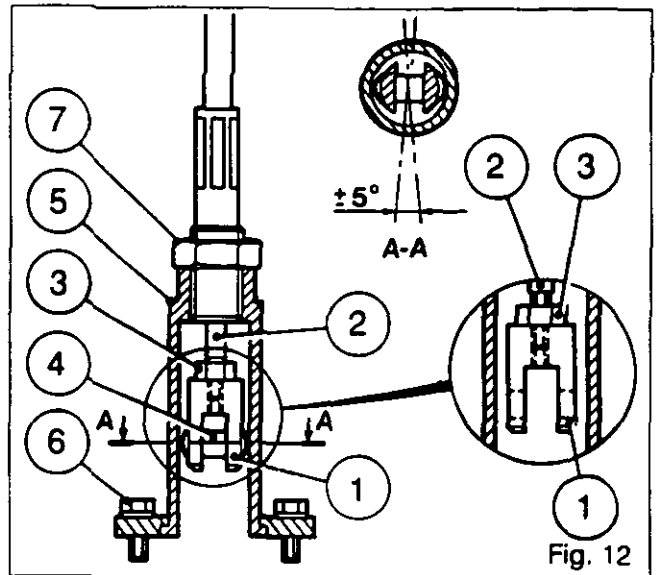
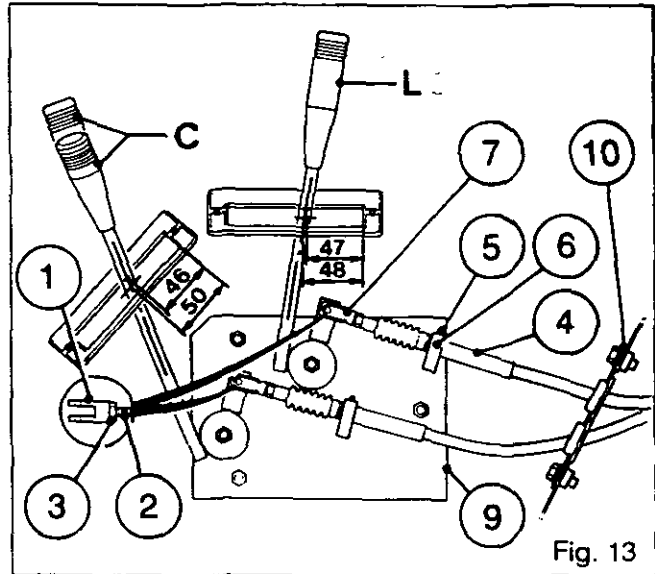

Fig. 12
Fig. 13
39. Using housing (5) (Fig.12), adjust the control cables for the first and second spool valves, making sure that levers C are positioned within tolerances. According to the type of fitting, refer to figures 13 and 14 (early and later type bracket). Tighten screws (6) and lock nut (7) to torque 20 Nm.
**Accessories - Auxiliary spool valve kit****E. Fitting and adjusting the auxiliary spool valve cable - Old bracket****On lever (Fig. 13)**
44. Put the control cable in the grommet-plate (10) at the rear of the cab. Slide cable housing stop (4) in slotted bracket (6) and fix pin (5).
45. Screw clevis (1) level with the edge of the threaded part of cable (2) and fit on lever L with clip (7). Tighten nut (3).
**On spool valves (Fig. 12)**
46. Check that the valve spools are in neutral position. Screw clevis (1) level with the edge of the threaded part of cable (2). Tighten nut (3). Fit pin (4) in clevis (1).
47. Partially screw housing (5) and fit screws (6) but do not tighten.
48. Screw housing (5) fully home so as to position lever L as shown in Fig. 13. Lock screws (6) and tighten nut (7) to torque 20 Nm.